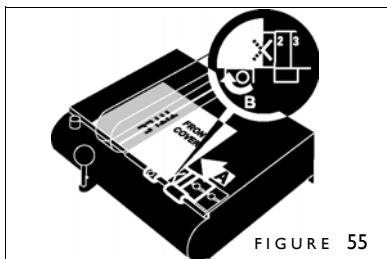

FIGURE 55
4. With the Centering Guide Locking Knob loosened, slide the Centering Guide under your cover until the right edge of the cover lines up with the middle of the X (Figure 55). Then tighten the centering Guide Locking Knob.